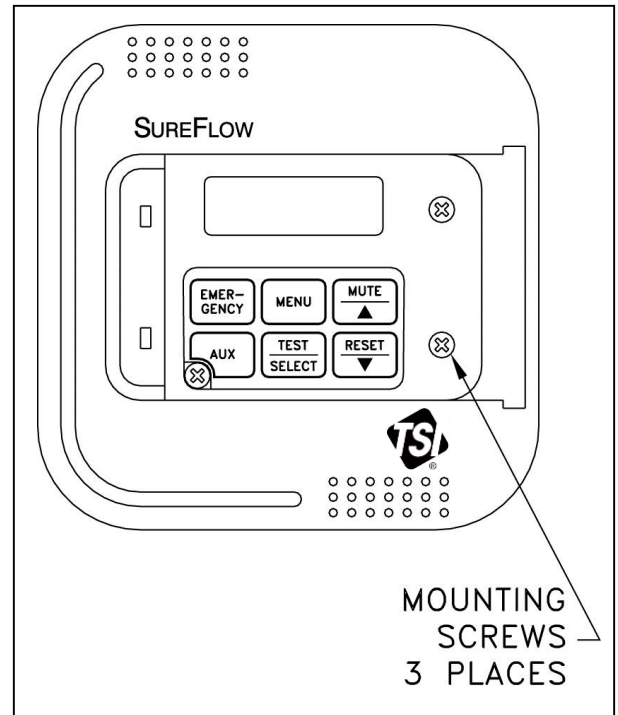

Figure 2: Digital Interface Module Mounting
- 3) Slide the DIM cover to the right and remove three screws holding the electronics to the base (Figure 2). Remove base.